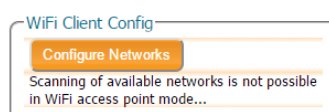

Figure 4-13: Click on 'Configure'
- Next, click on the 'Configure Networks' button in the 'WiFi Client Status' panel as shown in Figure 4-13. This will display a list of reachable WiFi networks.